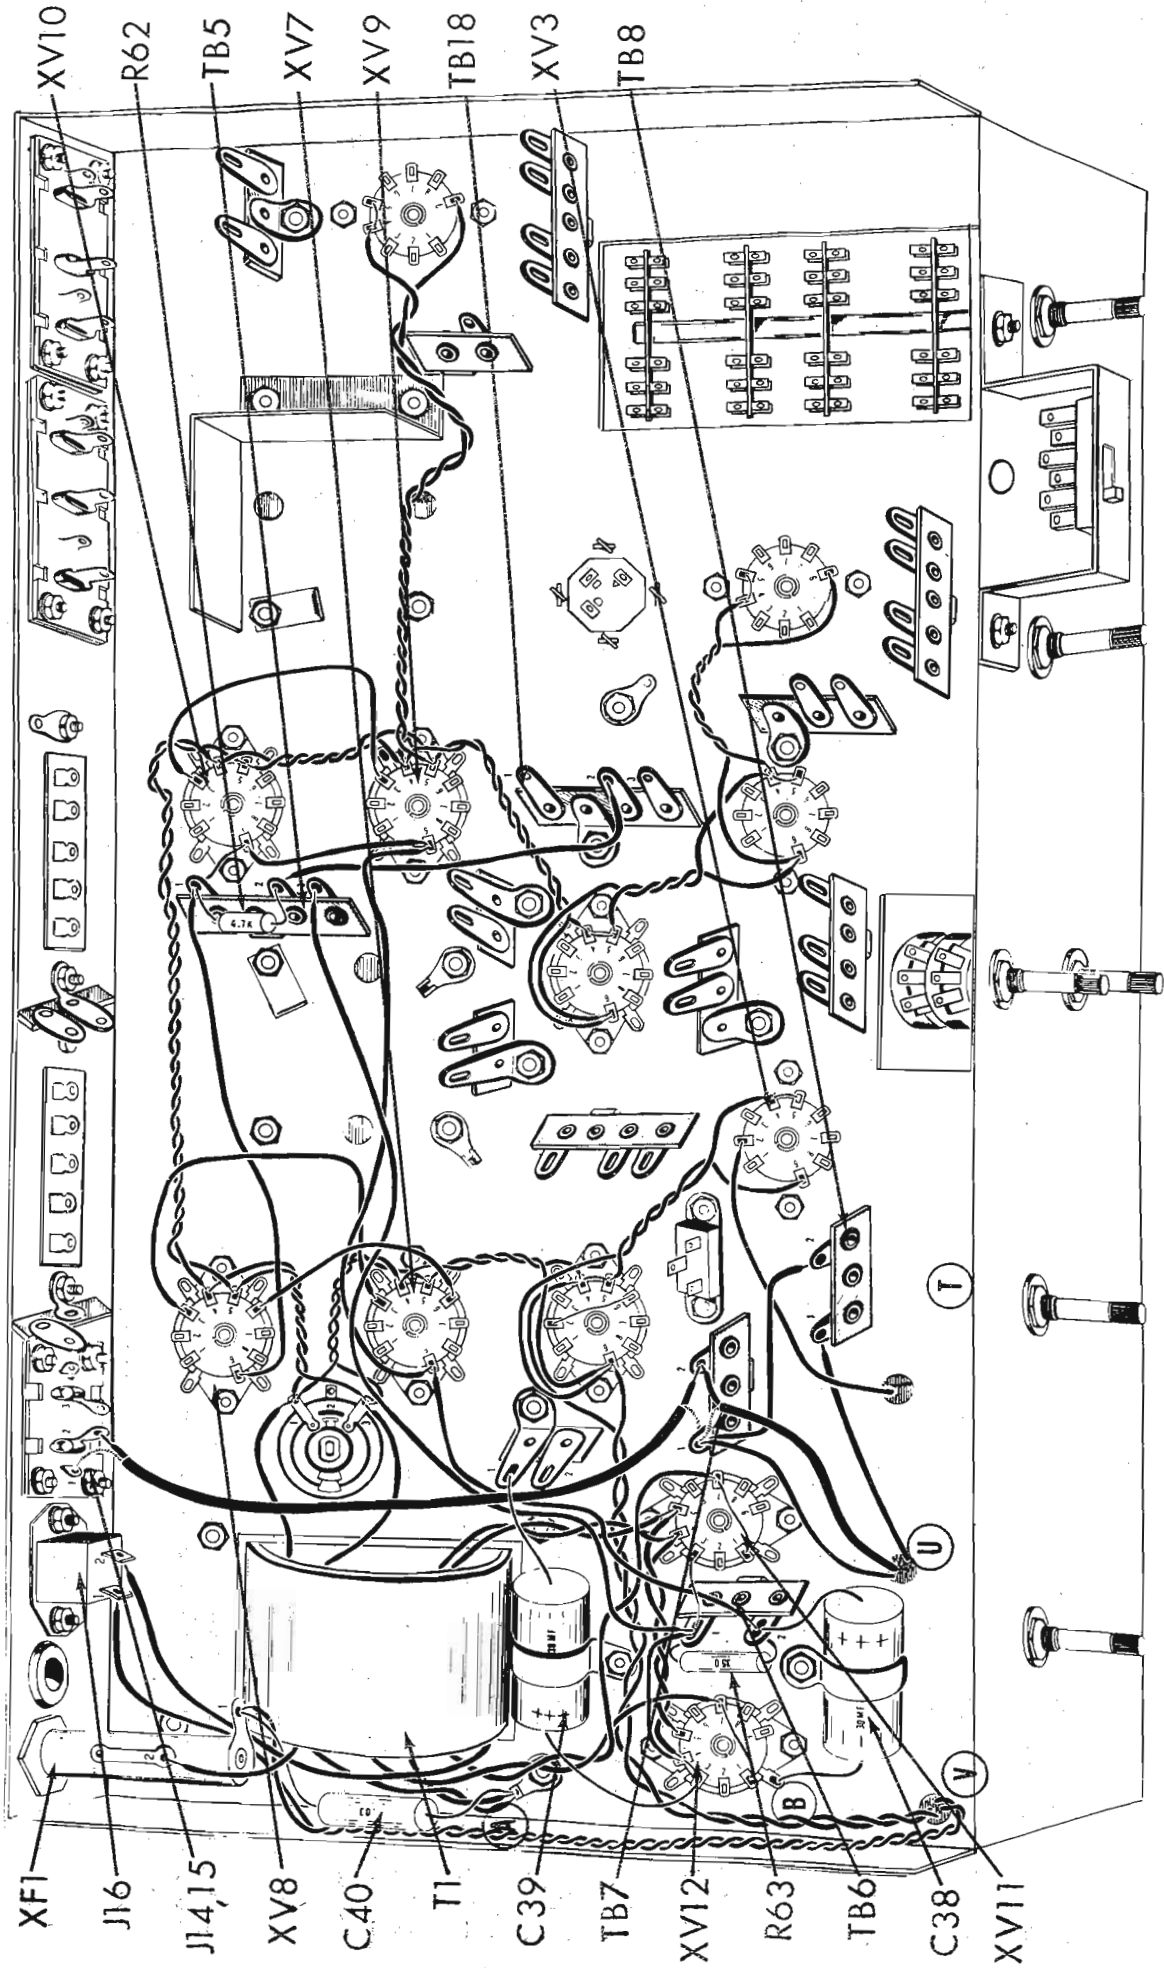

Fig. 7
1. (✓) Fig. 7. From the power transformer, T1, connect the red-yellow and white leads to ground lug "A" (C) at the power transformer.
2. (✓) Fig. 7. From the power transformer, T1, twist the two red leads and run along the chassis as shown. Connect one red lead to XV12-7 (C) and the other red lead to XV11-7 (C).
3. (✓) Fig. 7. Connect a 1" piece of bare wire from XV11-1 (S1) to XV11-7 (S2).
4. (✓) Fig. 7. Connect a 1" piece of bare wire from XV12-1 (S1) to XV12-7 (S2).
5. (✓) Fig. 7. Run the twisted pair of grey and black leads from hole "V" along the chassis as shown. Connect the grey lead to XF1-1 (C) and the black lead to J16-1 (C).
6. (✓) Fig. 7. Cut both leads on a .03mfd molded capacitor, C40, to 1" and cover each with a 3/4" piece of spaghetti. Connect one lead to XF1-1 (S2) and the other lead to ground lug "A" (S3). Be careful not to burn the leads running near ground lug "A".
7. (✓) Fig. 7. From the power transformer T1, connect the black lead (nearest ground lug "A") to J16-2 (C).
8. (✓) Fig. 7. Connect remaining black lead on power transformer, T1, to XF1-2 (S1).
9. (✓) Fig. 7. Connect the 350Ω, 10 watt resistor, R63, from TB6-1 (C) to TB6-2 (C). Cut both leads to 1/4" and cover each with a 1" piece of spaghetti.
10. (✓) Fig. 7. Cut both leads on the 30mfd electrolytic capacitor, C38, to 1 1/2". Cover the positive (+) lead with 1 1/4" piece of spaghetti and connect to TB6-2 (C). Connect the negative lead to ground lug "B" (S1) on XV12.
11. (✓) Fig. 7. Connect a 1/2" piece of bare wire from XV12-3 (C) to XV12-4 (C).
12. (✓) Fig. 7. Connect a 3" piece of red wire from XV12-4 (S3) to TB6-1 (C).
13. (✓) Fig. 7. Cut the positive (+) lead on the 30mfd electrolytic capacitor, C39, to 1 1/2". Cover with a 1 1/4" piece of spaghetti and connect to XV12-3 (S2). The other lead will be connected later.
14. (✓) Fig. 7. Connect a 6" piece of orange wire from TB6-2 (S3) to XV7-9 (C).
15. (✓) Fig. 7. Connect a 3/4" piece of bare wire from TB6-1 (C) to XV11-3 (S1).
16. (✓) Fig. 7. Connect a 7" piece of orange wire from XV7-9 (S2) to XV9-9 (C).
17. (✓) Fig. 7. Connect a 6" piece of orange wire from XV8-9 (S1) to TB5-1 (C).
18. (✓) Fig. 7. Connect a 3" piece of orange wire from XV10-9 (C) to XV9-9 (S2).
19. (✓) Fig. 7. Connect a 1" piece of bare wire from TB5-1 (C) to XV10-9 (S2).
20. (✓) Fig. 7. Connect a 4 1/2" piece of orange wire from TB5-2 (C) to TB18-2 (C).
21. (✓) Fig. 7. Cut both leads on a 4.7KΩ (yellow, violet, red, silver) 2 watt resistor, R62, to 3/4". Connect from TB5-1 (S3) to TB5-2 (S2).
22. (✓) Fig. 7. Connect a 3 1/2" piece of yellow wire from XV8-3 (C) to XV7-3 (C).
23. (✓) Fig. 7. Connect a 3 1/2" piece of yellow wire from XV10-3 (C) to XV9-3 (C).
24. (✓) Fig. 7. Connect an 8 1/2" piece of red wire from TB5-3 (C) to TB6-1 (S4).
25. (✓) Fig. 7. Connect the black wire from hole "U" to TB7-1 (C).
26. (✓) Fig. 7. Connect the green wire from hole "T" to XV3-2 (S1).
27. (✓) Fig. 7. Connect the yellow wire from hole "U" to TB8-1 (C).
28. (✓) Fig. 7. Connect a 3 1/2" piece of black wire from TB7-1 (C) to TB8-2 (C).
29. (✓) Fig. 7. Connect the outer shield from the single conductor shielded cable (from hole "U") to TB7-1 (C) and the inner conductor of the same cable to TB7-2 (C).
30. (✓) Fig. 7. Strip back the outer insulation 3/4" from one end of a 8" piece of single conductor shielded cable. Twist the shield strands together. Strip the insulation on the inner conductor back 1/4". Connect the shield to TB7-1 (C) and the inner conductor to TB7-2 (C). On the other end of the same cable, strip the outer insulation back 1/2". Twist the shield strands together. Strip the insulation on the inner conductor back 1/4". Connect the shield to J14, 15-1 (S1) and the inner conductor to J14, 15-2 (S1).